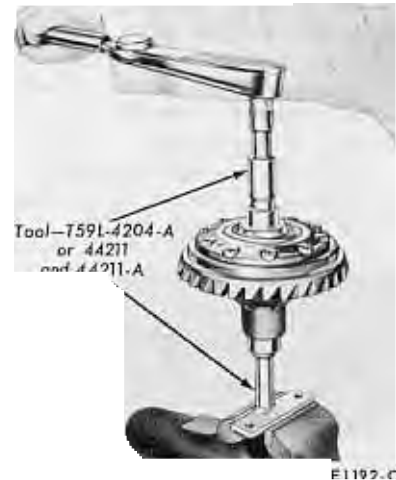

FIG. 28—Differential Torque Check
14. Check the torque required to rotate one side gear while the other side gear is held (Fig. 28). Ignore the torque required to start the side gear turning. The torque required to keep it moving steadily should be between 100 and 125 ft-lbs, if new clutch plates were installed. The torque should be at least 50 ft-lbs, if the original clutch plates were installed. If the required torque is not within these limits, check for improper assembly.